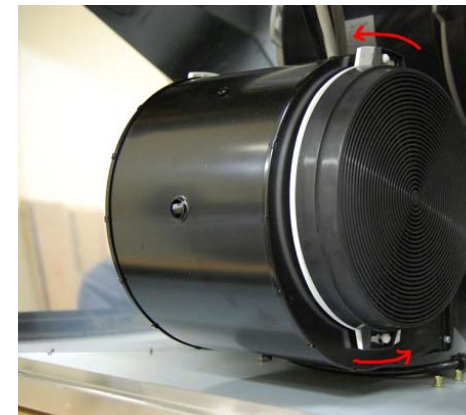

Fig. 3b
- Rotate the charcoal filters in a counter-clockwise motion until you hear a click. (Fig. 3b)